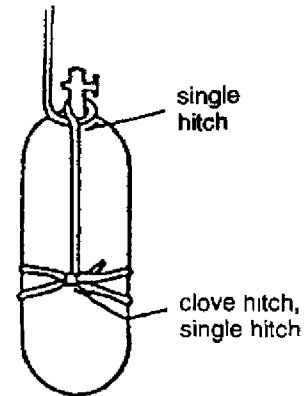

Fig. 7-30
(3) Setup
- a. Carry the spare tank to the tank opening; tie the spare tank onto the end of the rope using the air tank tying technique (protect as necessary with a blanket, etc.). Open the cylinder valve, lower into the vessel, and supply the victim with fresh air. (Fig. 7-30)